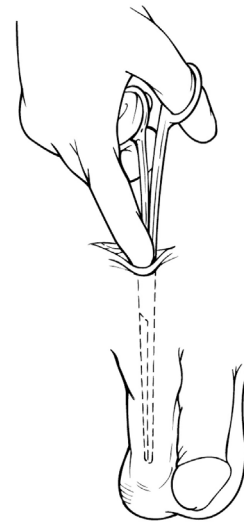

Figure 4-10. Create Pouch
18. Use blunt dissection to create a dependent subdartos pouch in the scrotum. (**Figure 4-10**)